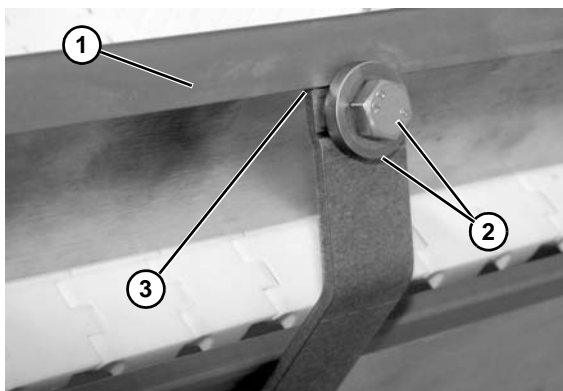

Figure 28
3. Attach guide (**Figure 28, item 1**) to the mounting brackets with hex bolts and spacers (**Figure 28, item 2**). Hand tighten only at this time.
4. Ensure that nose of bracket slips under the lip of guide (**Figure 28, item 3**).